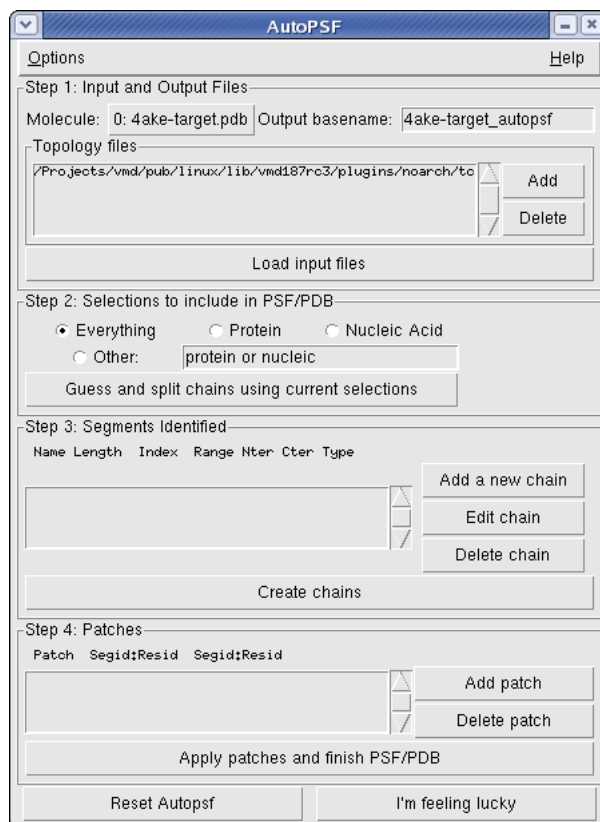

Figure 3: The VMD AutoPSF window.
- 2 To make sure the target structure is complete, we will use the VMD plugin AutoPSF, which automates building structures for molecular dynamics simulations. In the VMD Main window, choose **Extensions** → **Modeling** → **Automatic PSF Builder** (Fig. 3).